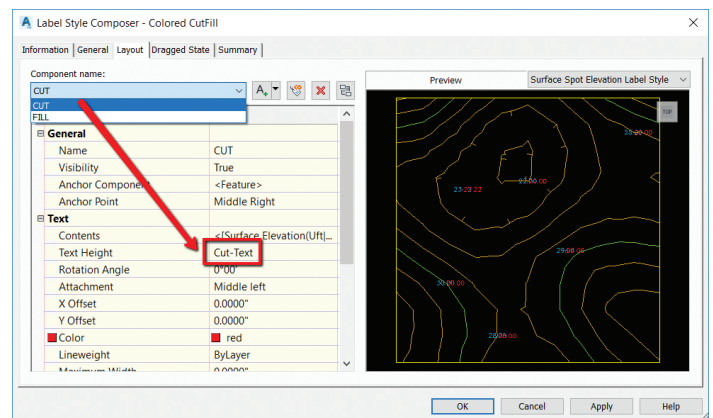

Figure 7
5. Create a label style that has two components: Cut and Fill text (see Figure 7). These components reference the Surface Elevation, but in the text height property, you will set the corresponding expression (Cut/Fill).